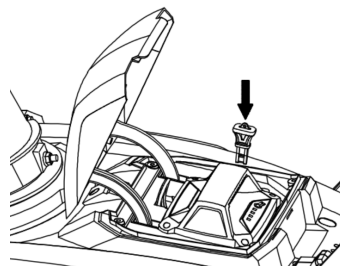

Fig.3
2. Insert the safety key into the slot and close the battery compartment cover as Fig. 3 shows.